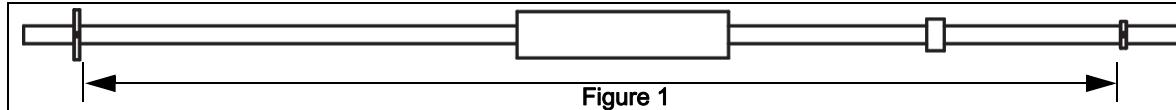

Figure 1
- Measure L , the length of the aluminum tube at room temperature. Measure from the inner edge of the larger circular disk on one end to the inner edge of the smaller circular disk at the other end (see Figure 1). Record your results in Table 1.